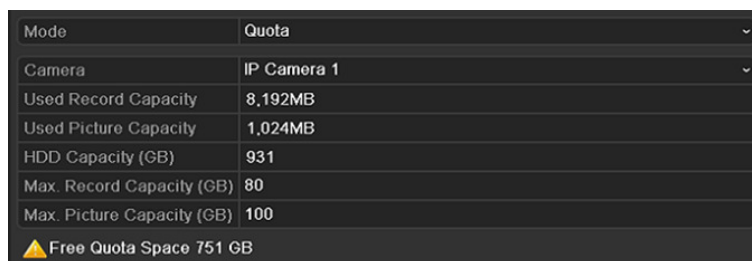

Figure 247 Storage Mode Settings Interface
2. Set the Mode to Quota, as shown in Figure 247.